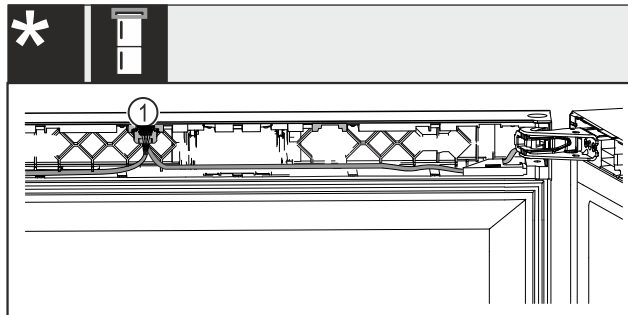

Fig. 50 Wine-freezer combinations\*
- ▶ Snap the plug Fig. 50 (1) into the guide.\*